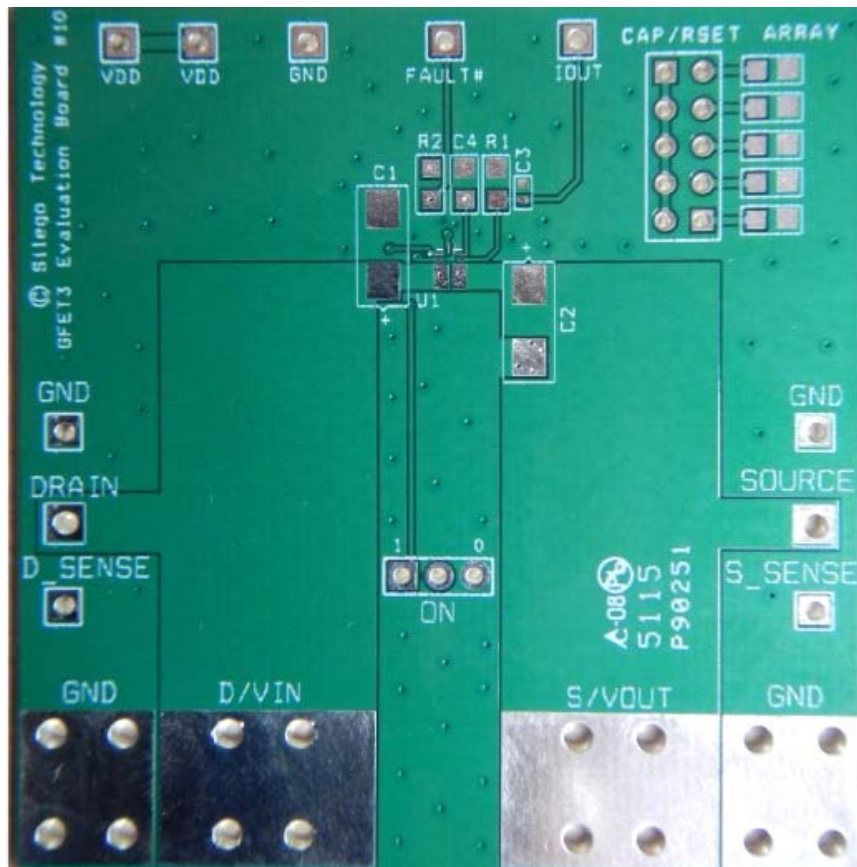

Figure 19. SLG59M1713V Evaluation Board
2. Since the VIN and VOUT pins dissipate most of the heat generated during high-load current operation, it is highly recommended to make power traces as short, direct, and wide as possible. A good practice is to make power traces with an absolute minimum widths of 15 mils (0.381 mm) per Ampere. A representative layout, shown in Figure 19, illustrates proper techniques for heat to transfer as efficiently as possible out of the device;
A GFET3 Evaluation Board for SLG59M1713V is designed according to the statements above and is illustrated on Figure 19. Please note that evaluation board has D\_Sense and S\_Sense pads. They cannot carry high currents and dedicated only for RDSON evaluation.